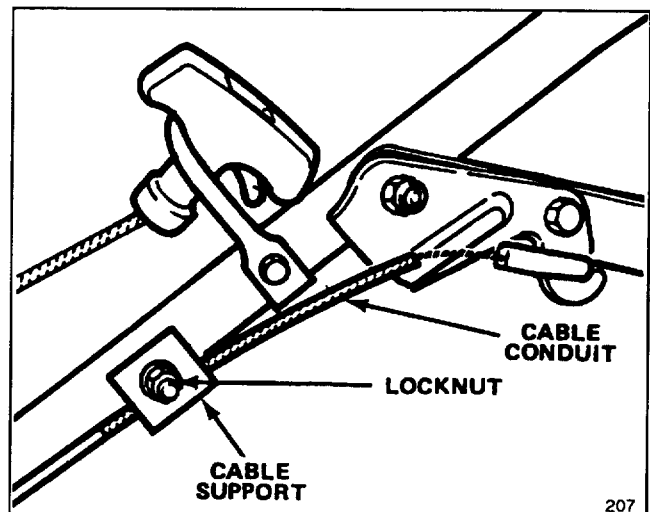

Figure 30
3. ADJUST CABLE CONDUIT—Loosen locknut on cable support (Fig. 30). Insert  $1/8''$ – $3/16''$  object between brake lever and handle. Adjust cable conduit until slack is removed. Then tighten locknut.